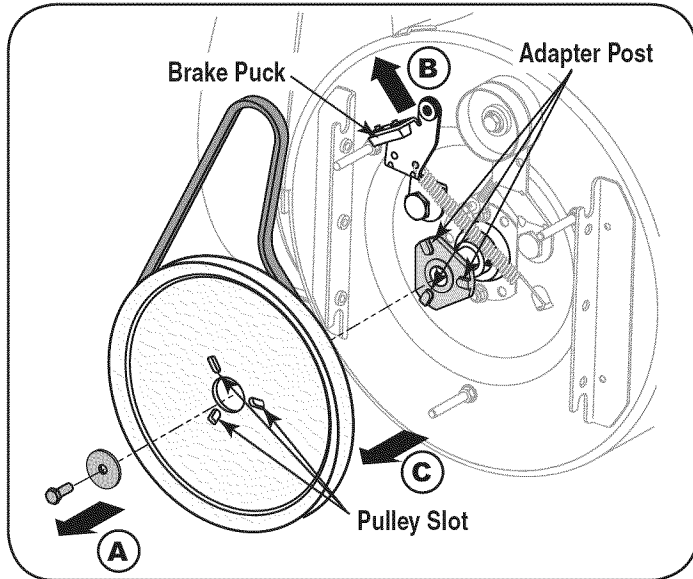

Figure 34
- Block the impeller with a piece of wood to prevent it from spinning and use a 1/2" wrench to remove the hex screw and flat washer from the center of the pulley on the auger housing. See (A) in Figure 34.
- Lift the brake bracket assembly out of the pulley groove (B) in Figure 34 and slide the pulley assembly off the posts of the auger pulley adapter (C) to remove the old belt.
- Turn the pulley as necessary to align its three slots approximately with the posts of the pulley adapter, then pivot the brake bracket assembly away from the pulley groove. While aligning the pulley slots and adapter posts, push the auger pulley fully onto the adapter. Refer to Figure 34. Ensure the brake puck of the brake bracket assembly aligns and is fully seated in the pulley groove.
NOTE: If the pulley adapter was removed with the pulley, align the splines of the pulley adapter and auger input shaft, and push the pulley and adapter onto the input shaft. Refer to Figure 34.